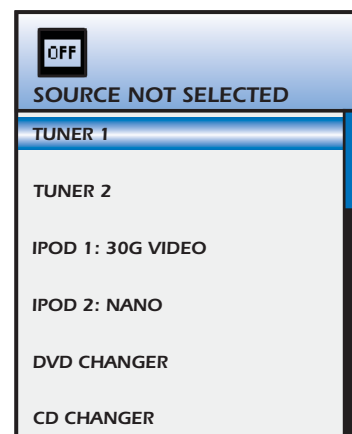

Figure 37
1. **Press the Zone Power Off Key** for less than 2 seconds. A red **OFF** (red SpeakerCraft Logo off/MODE Free) and the message: **"Source Not Selected"** will appear at the top of the LCD. (Refer to **Figure 37**) Unless the local zone is the last zone to be turned off, the zone will turn off and the common sources will stay on. If the local zone is the last zone to be turned off the common sources will turn off as well. On MODE Free the current zone will appear after a four second display of the System Status.